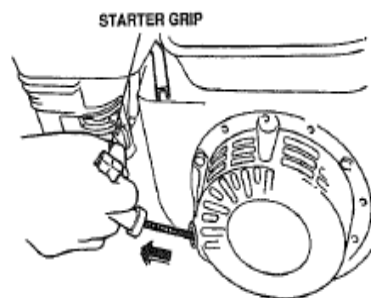

Figure 15. Starter Grip
5. Grasp the **starter grip** (Figure 15) and slowly pull it out. The resistance becomes the hardest at a certain position, corresponding the compression point. Rewind the rope a little from that point and pull out sharply.